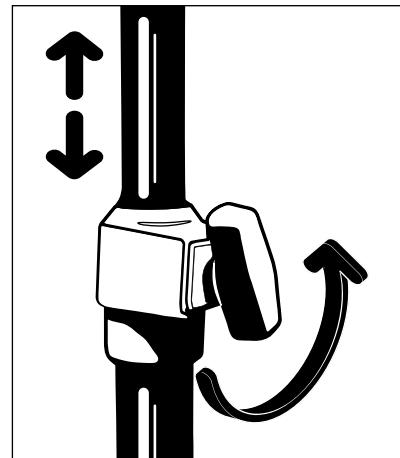

Figure 24 – Adjusting the IV pole
1. Turn the telescoping knob counter clockwise to unlock the IV pole (Figure 24).
4. Turn to the telescoping knob clockwise to lock the IV pole (Figure 24).